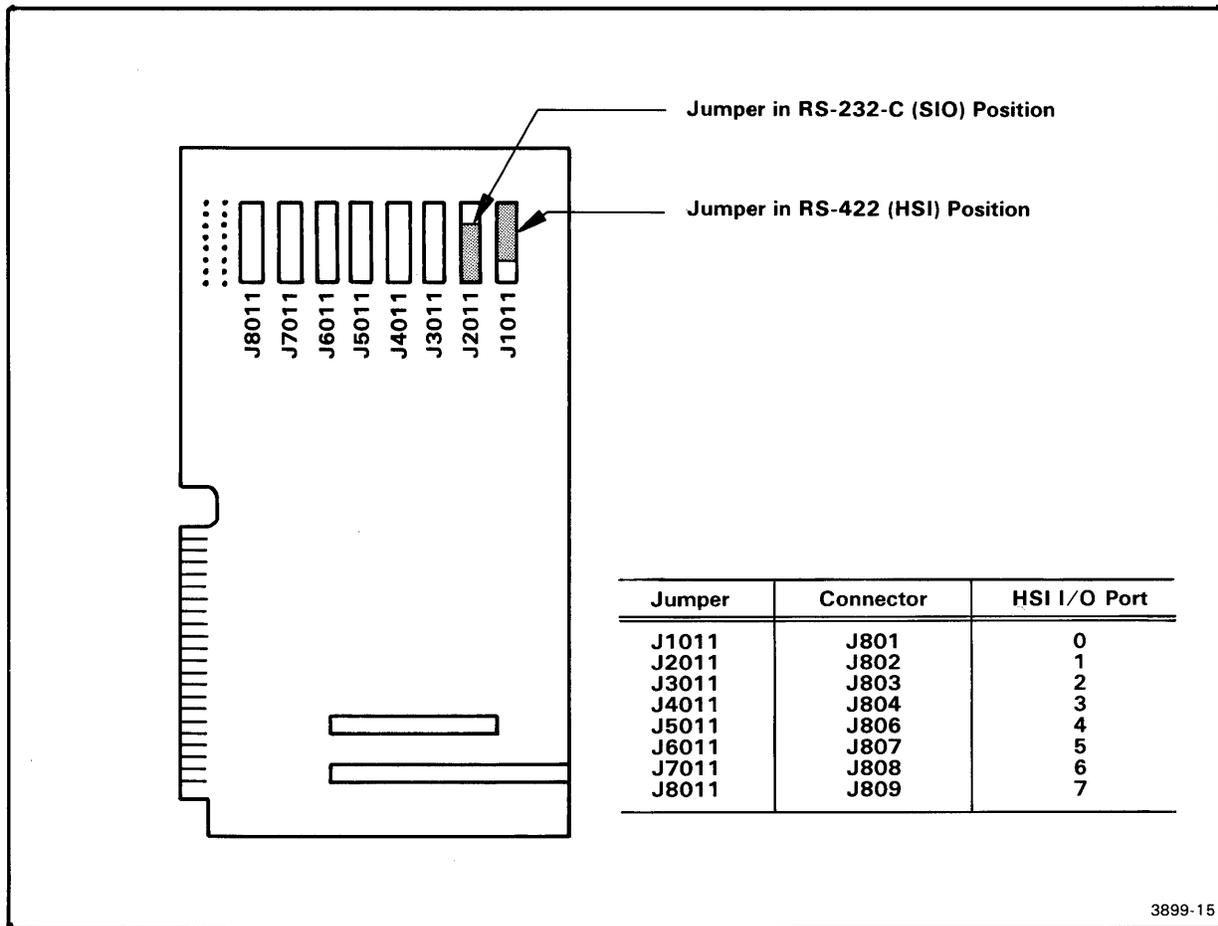

Fig. 3-3. Location of jumpers on the I/O Adapter board.
2. On the I/O Adapter board, locate the jumper for the HSI I/O port to be used for your system terminal. Refer to Fig. 3-3.
As discussed earlier, any HSI I/O port may be reconfigured for RS-232-C protocol. Table 3-1 describes the interface connector pin assignments. In the RS-232-C configuration, only the positive side of the balanced signals is used. Jumpers for selecting the interface are located on the I/O Adapter board. Refer to the table in Fig. 3-3 for identification of these jumpers.